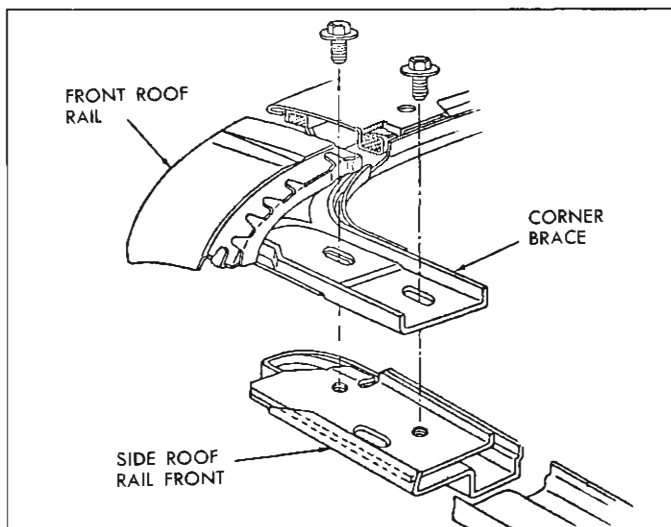

Fig. 49—Roof Rail Corner Brace Attachment
2. Loosen corner brace attaching bolts and adjust front roof rail fore or aft as required. Repeat on opposite side if necessary (see Figure 49).